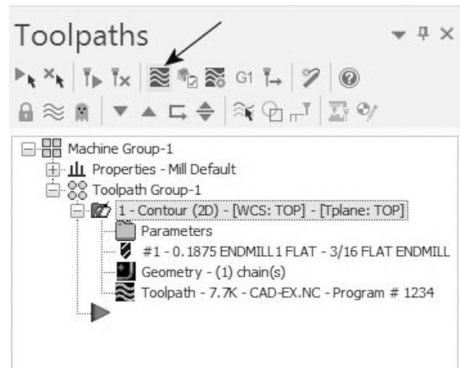

Figure 5-31 Toolpath Backplot Icon
1. From the Operations Manager, select the “Backplot selected operations” button (at the middle of the bar), as shown in Figure 5-31. Be sure that the Contour (2D) ... folder has a green check mark on it before proceeding. If it does not have a green checkmark on the folder, choose “Select all operations” from the button bar and then select “Regenerate all selected operations”.